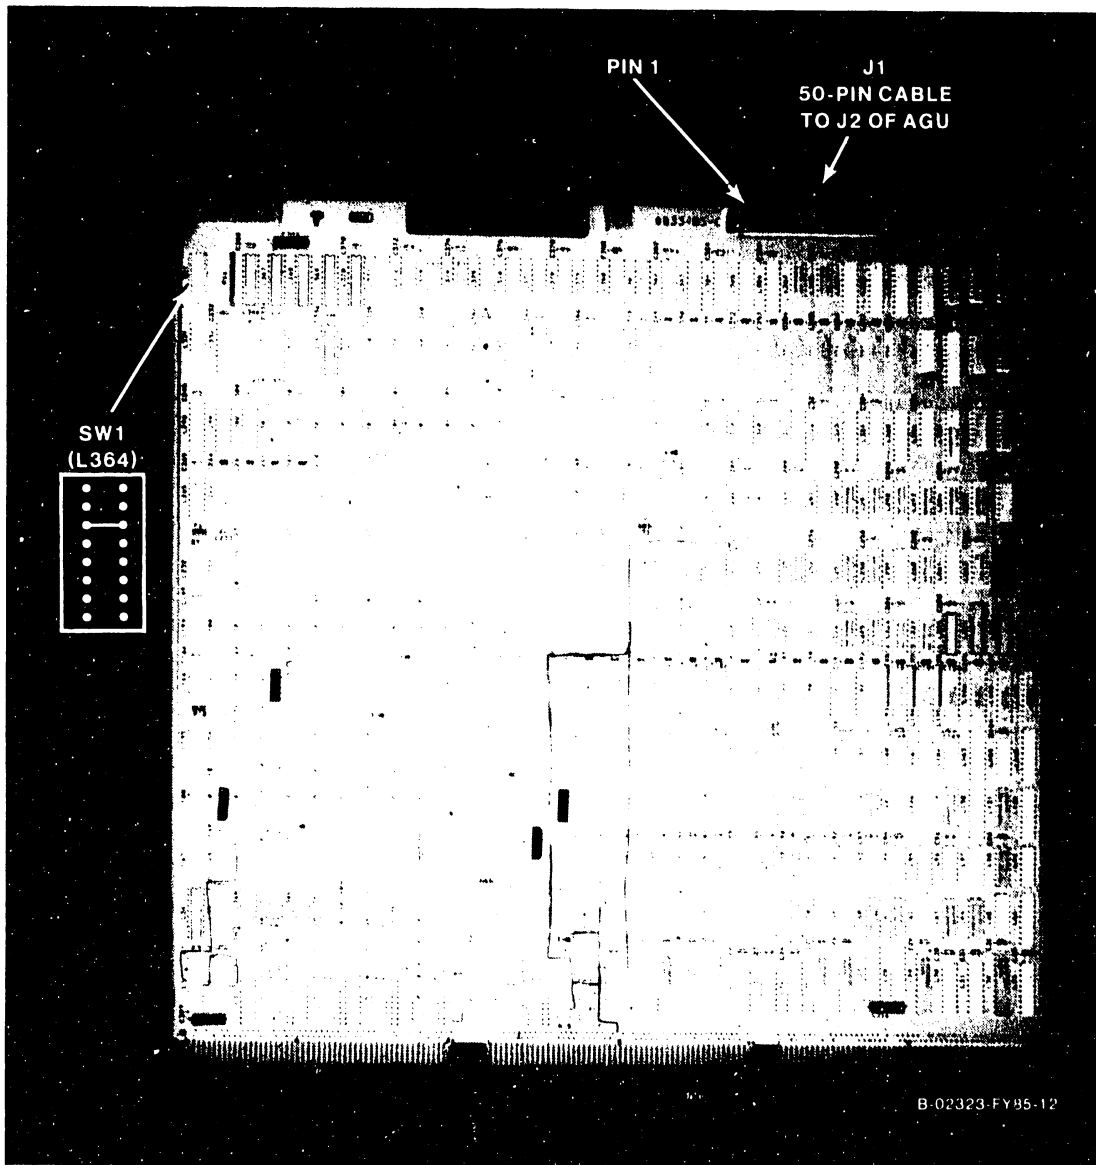

Figure 5-17. 210-8833 Address Translation Unit
1. Before removing the Address Translation Unit (ATU), figure 5-17, from backplane slot #4 disconnect the 50-pin cable from J1.
3. After checking the IPC Destination Processor jumpers at L364 or SW1 as shown in figure 5-17, install the new ATU.